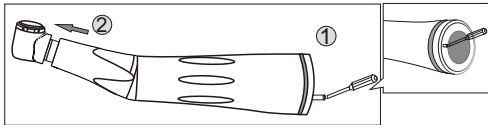

Fig. 1.1
1. Use a screwdriver to make the screw out from the tail of the contra angle and pull out small head from outside, as shown in figure 1-1.